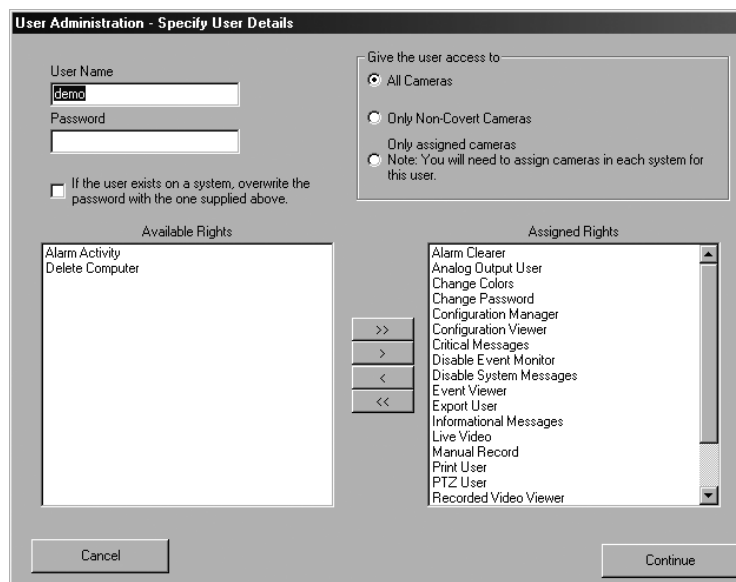

Figure 21. User Details Window for System Administration
1. **If you selected “Copy a user with changes”:** In the Specify User Details window (refer to Figure 21), modify the user name, camera access, and user rights as desired.